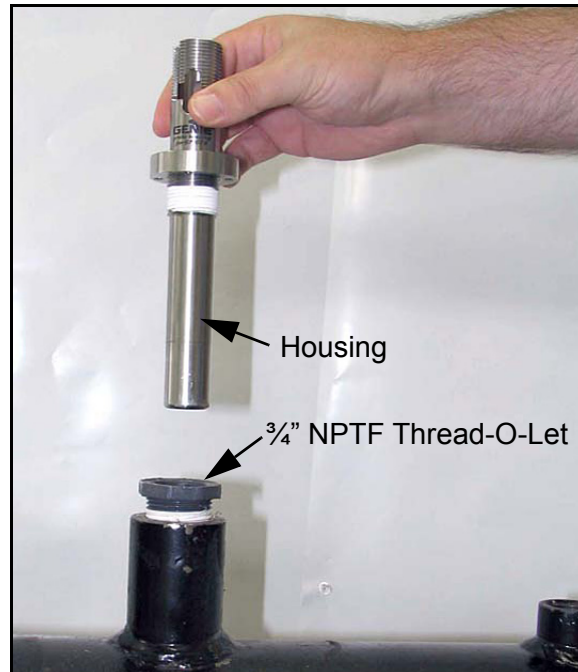

Figure 12: Inserting Housing into Pipeline
2. Confirm that the pipeline has been unpressurized. Refer to *Figure 12* below and insert the housing into the pipeline through a $\frac{3}{4}$ " NPTF thread-o-let (The minimum ID of the thread-o-let is 0.91").